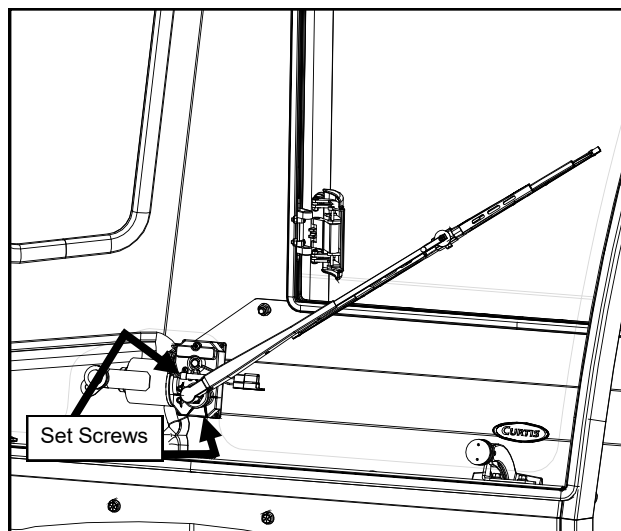

Fig. 20.3 (Wiper Arm and Blade)
- 20.3 Install the wiper arm onto the wiper motor so that the wiper is approximately 55 degrees from vertical as shown in Figure 20.3. Tighten the Set Screws.